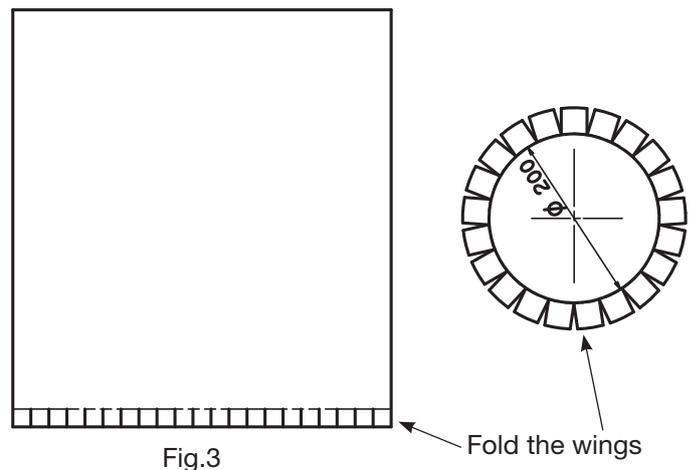

Fig.3
- Fold the wings of the supplied plastic sheet (fig.3).